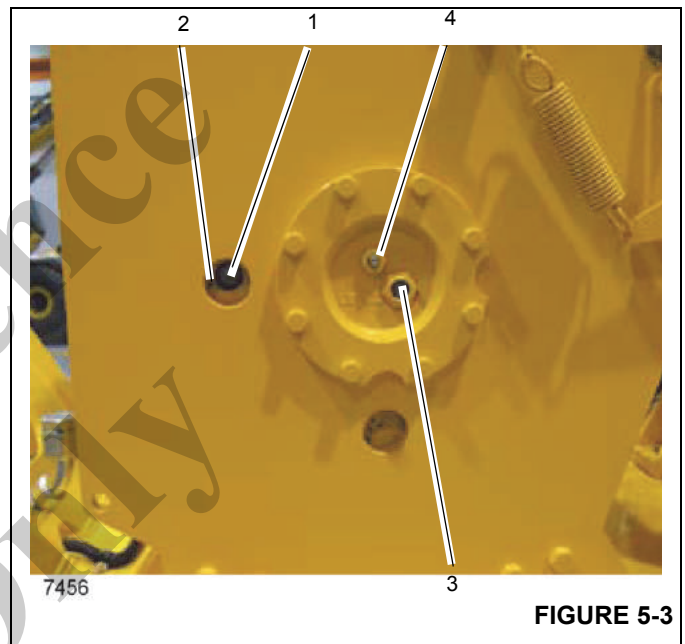

FIGURE 5-3
**NOTE:** Failure to align the fill/drain plug (1) with the upper access hole (2) as shown in Figure 5-3 prior to checking the oil level will result in an inaccurate reading.
1. Rotate the hoist drum until the fill/drain plug (1) appears in the upper access hole (2) shown in Figure 5-3.